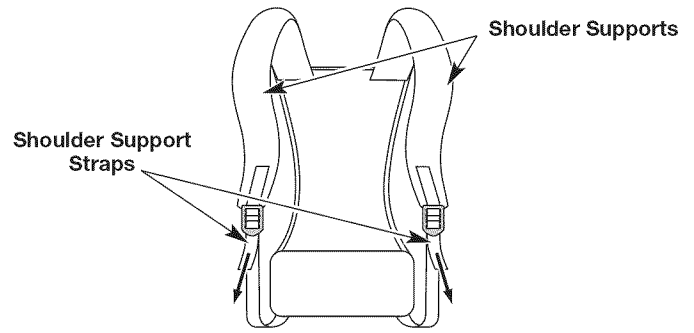

Fig. 11
2. Pull the shoulder support straps down to tighten the shoulder supports (Fig. 11).